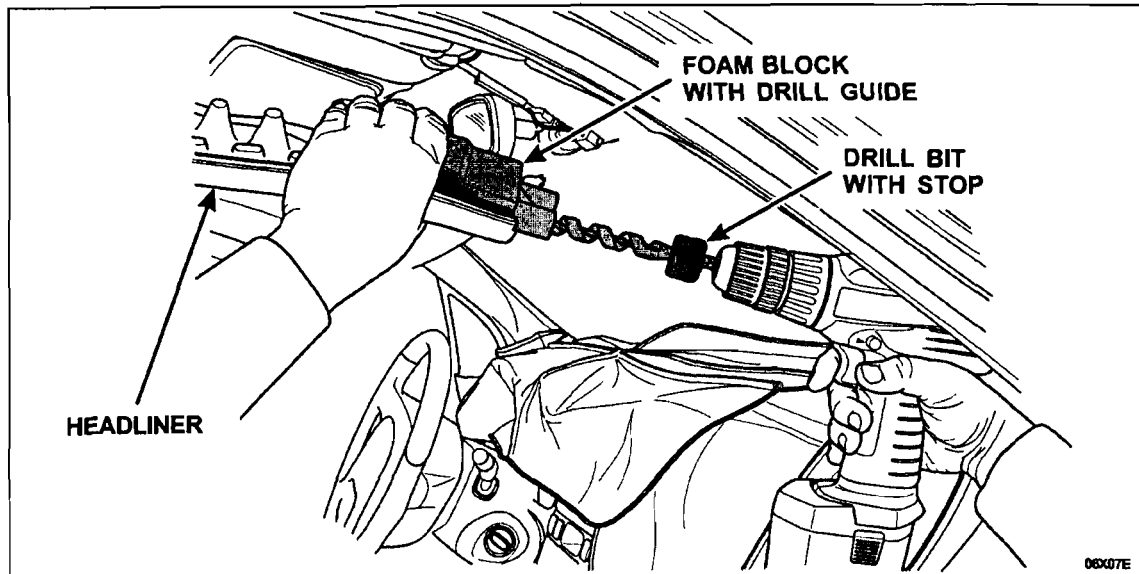

FIGURE 5
- A. Holding the drilling guide securely in place, position the drill bit in either of the two (2) guide holes. See Figure 5.